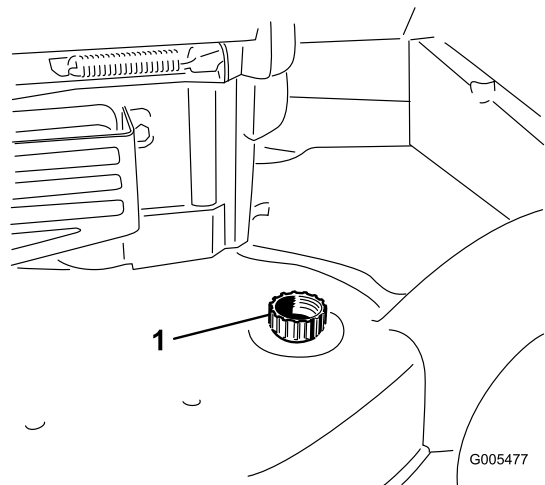

Figure 34
4. Attach a garden hose that is connected to a water supply to the washout port (Figure 34).